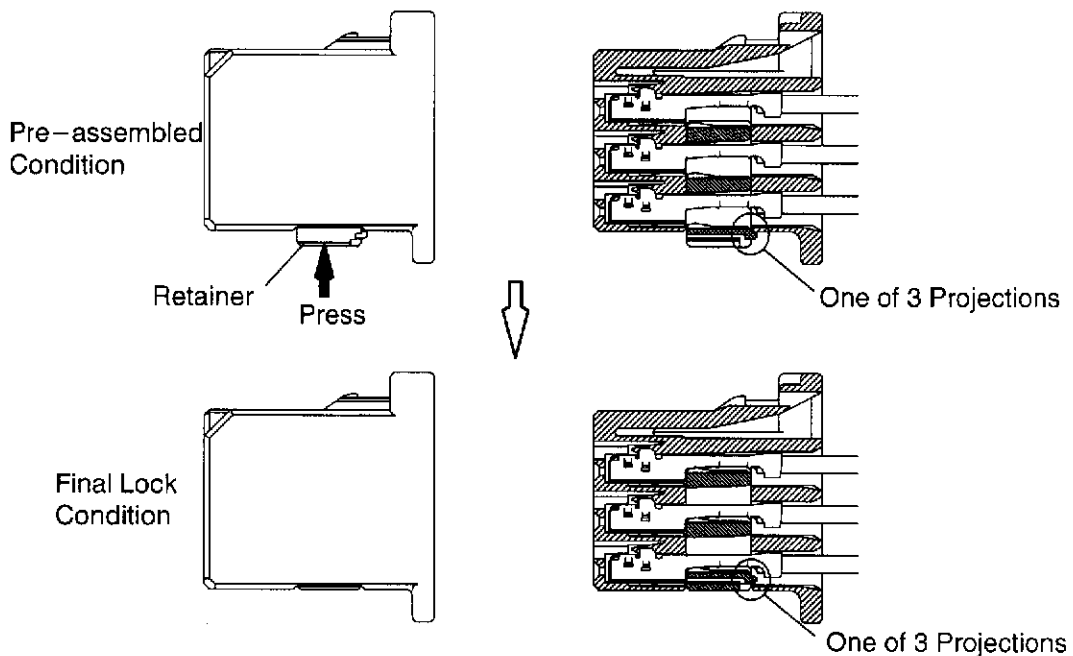

Fig.11
(1) After insertion of all of the contacts, press the retainer for final lock condition. Fig.11. The double lock operation is finished by confirmation that the retainer is kept in the final lock condition by the 3 projections. Fig 11.